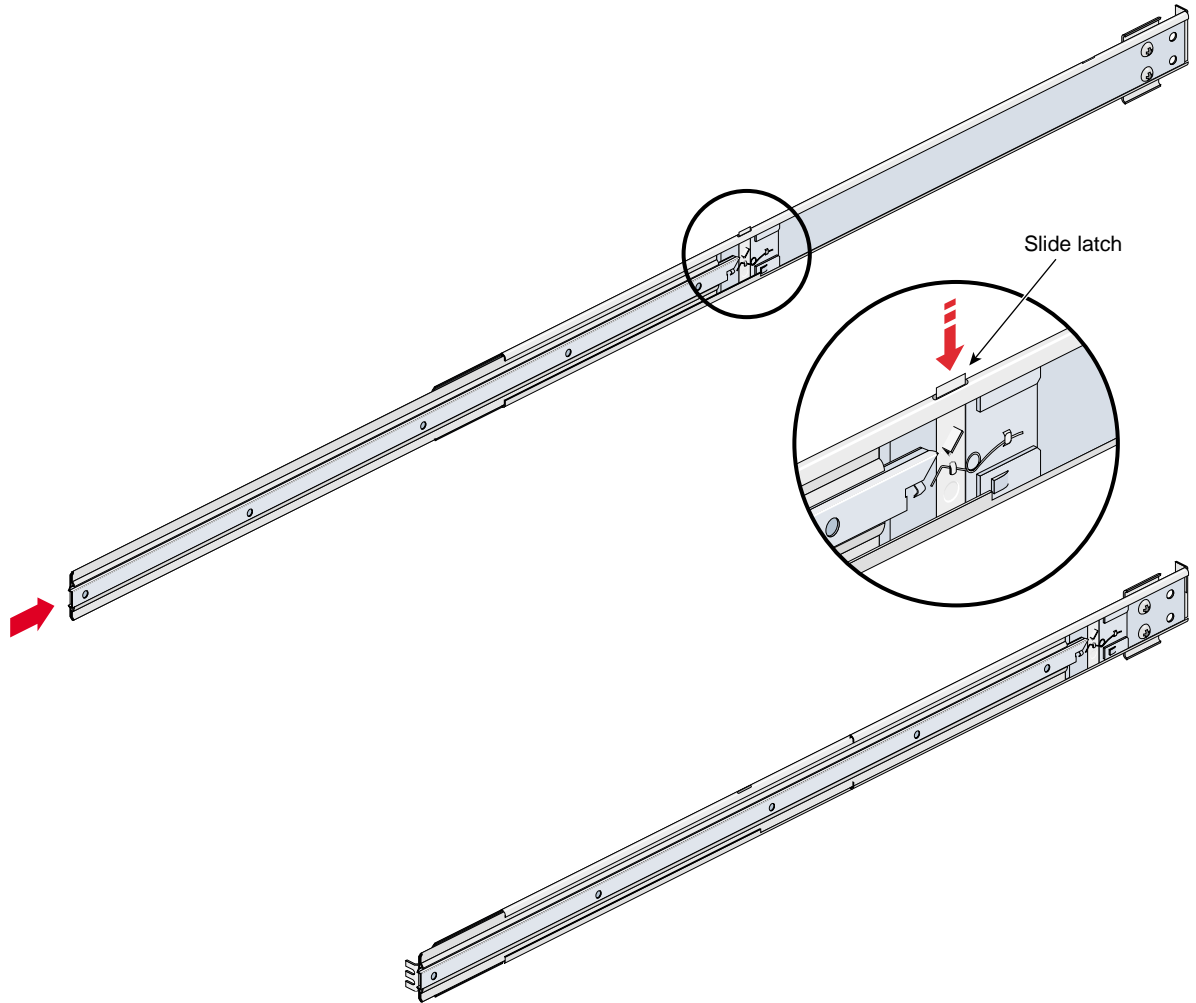

Figure 2-12 Releasing the Slide Latches
7. To slide the slide rails back into the rack, push down on the slide latches as shown in Figure 2-12.